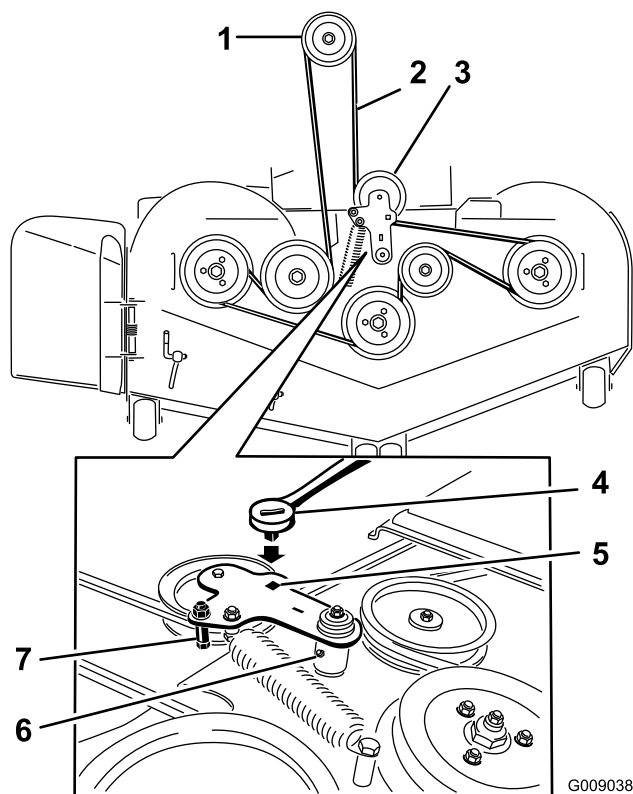

Figure 96
6. Lift up the floor pan and insert a ratchet into the square hole in the deck idler (Figure 96).
7. Rotate the deck idler clockwise and remove the mower belt (Figure 96).